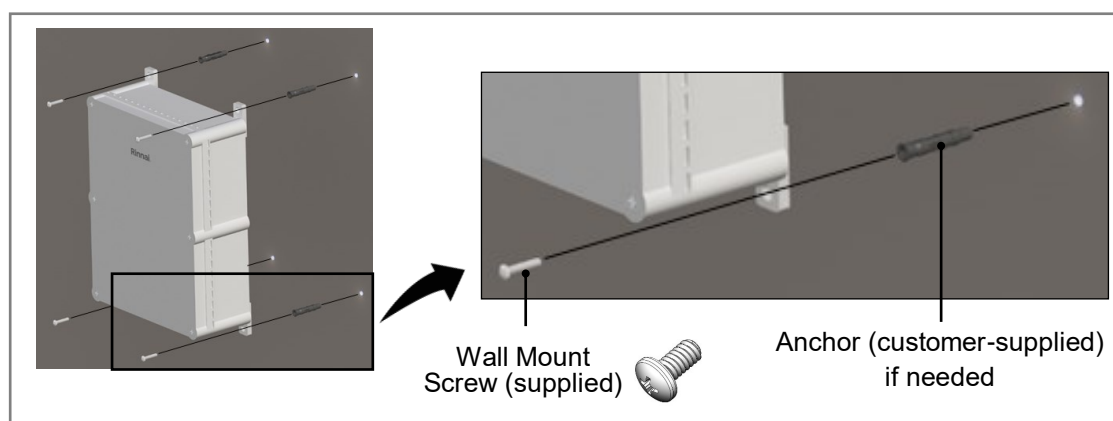

Fig 25. Mount the BMS Gateway to the Wall
3. Secure the BMS to the wall using the four supplied wall mount screws (Fig 25).